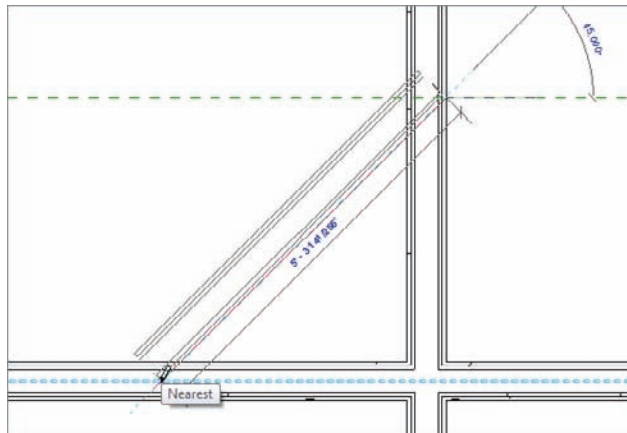

FIGURE 2.42 Adding the 45° wall
3. Pick the intersection of the reference plane and the inside finished face (right face) of the left, vertical corridor wall (see Figure 2.42).
5. At a 45° angle, pick the endpoint at a location within the horizontal, top corridor wall. When you're finished, press the Esc key twice. you may have to press the spacebar to get your wall flipped in the proper direction, as shown in Figure 2.42.